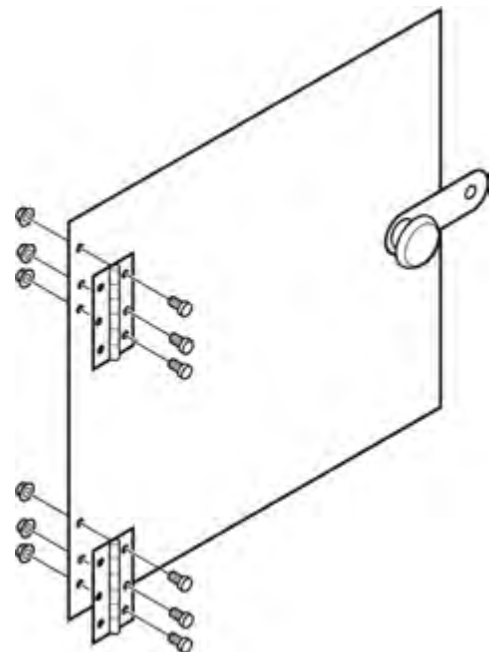

Figure 4-17
20. Using six M4 x 12 Cross Recessed Head Screws (item #27) and M4 Hex Flange Nuts (item #30), attach two Door Hinges (item #34) to the Door (item #40), as shown in Figure 4-17.